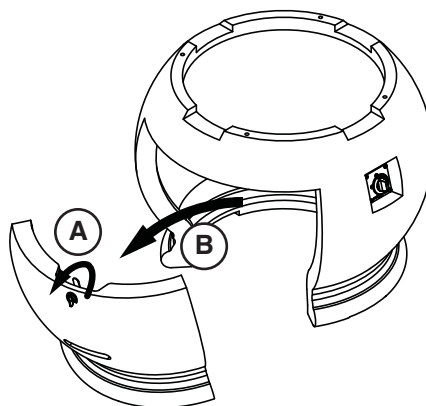

Fig. 19-2 Remove door
2. Remove the storage door by first turning the door handle counter-clockwise, then carefully pulling the door outward (see Fig. 19-2). Store in a safe location.